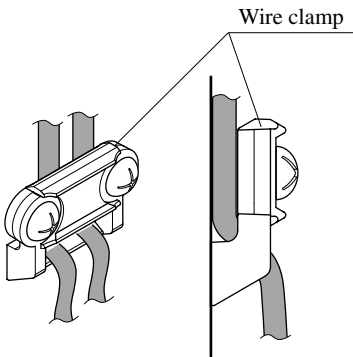

Figure 1
- 2 Make wires go through the hole of the wire clamp and secure it with screws. (See the Figure 1.)